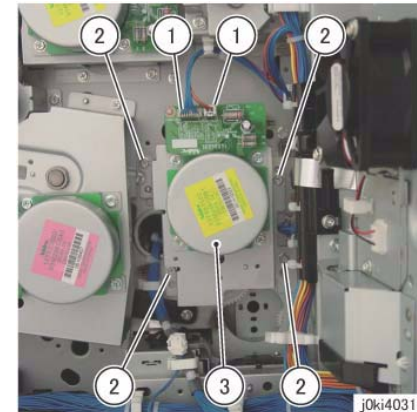

Figure 2 Remove the Main Drive Assy
6. Remove the Main Drive Assembly. (Figure 2)